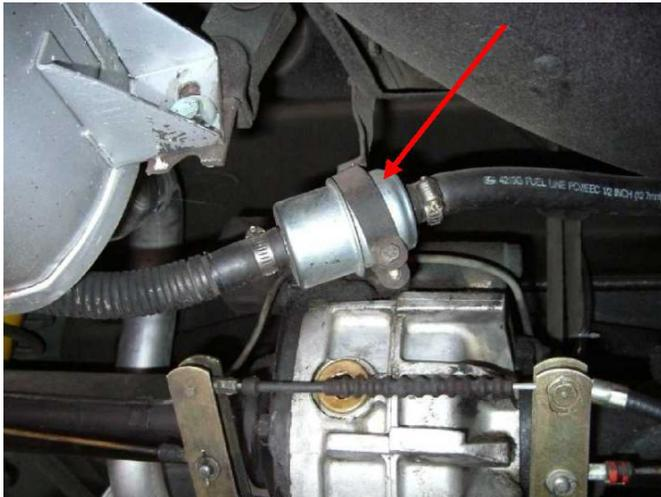

Fig 1. Rear Fuel Filter
1. **Clogged fuel filter.** Change the rear filter with the spare you always keep in the trunk. A clogged fuel filter probably will be slowly progressive, so you should be able to limp-in somewhere. See Fig. 1.